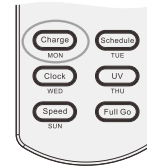

Figure 3
4. Press Charge on the remote control if you want to charge the main body. The cleaner will search for the Docking Station automatically (Refer Fig 3).